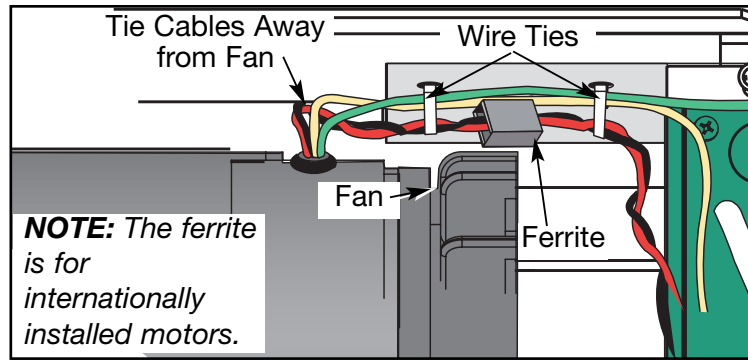

Figure 18
- D. Using wire ties, tie the motor cable to the base so that no wires get pinched. See Figure 18. **NOTE:** Be sure that the wires are tied away from the fan and running belt. For internationally installed treadmills only, place the ferrite (shown in Figure 18) removed in between the wire ties.